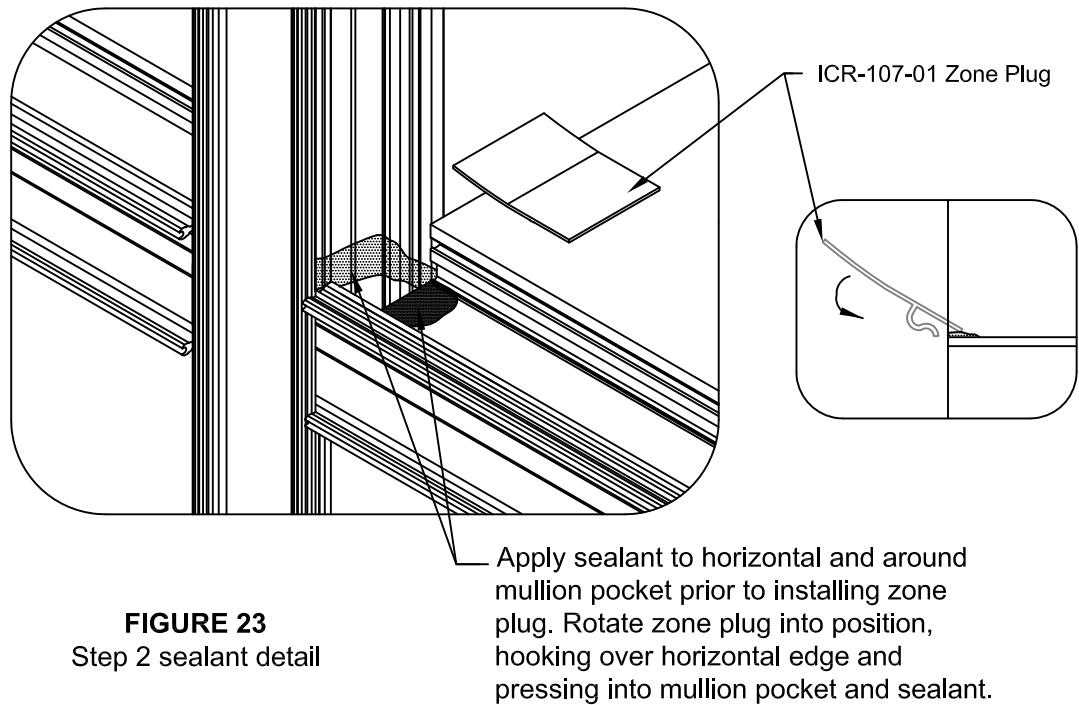

FIGURE 23
- 3.14 Step 2. Place bead of sealant around glazing pocket at location where zone plug will be located prior to inserted into pocket. Also lay bead of sealant across top of stem of horizontal. Place ICR-107-01 zone plug into pocket so that it may rotate over stem and snap into position. SEE FIGURE 23, page 22.